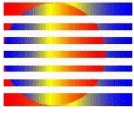

Figure 10: Sapphire Receiver Configuration Menu
- Step 3.** Enable and enter location data (x, y, and z) for each active receiver. To add a new receiver, select **Add** and enter data as shown in Figure 10. Setting the **Enable** flag activates this receiver for data collection. Setting the **Presence Detection** flag directs the software to output a string indicating that a tag is visible at the receiver when position information is not available.